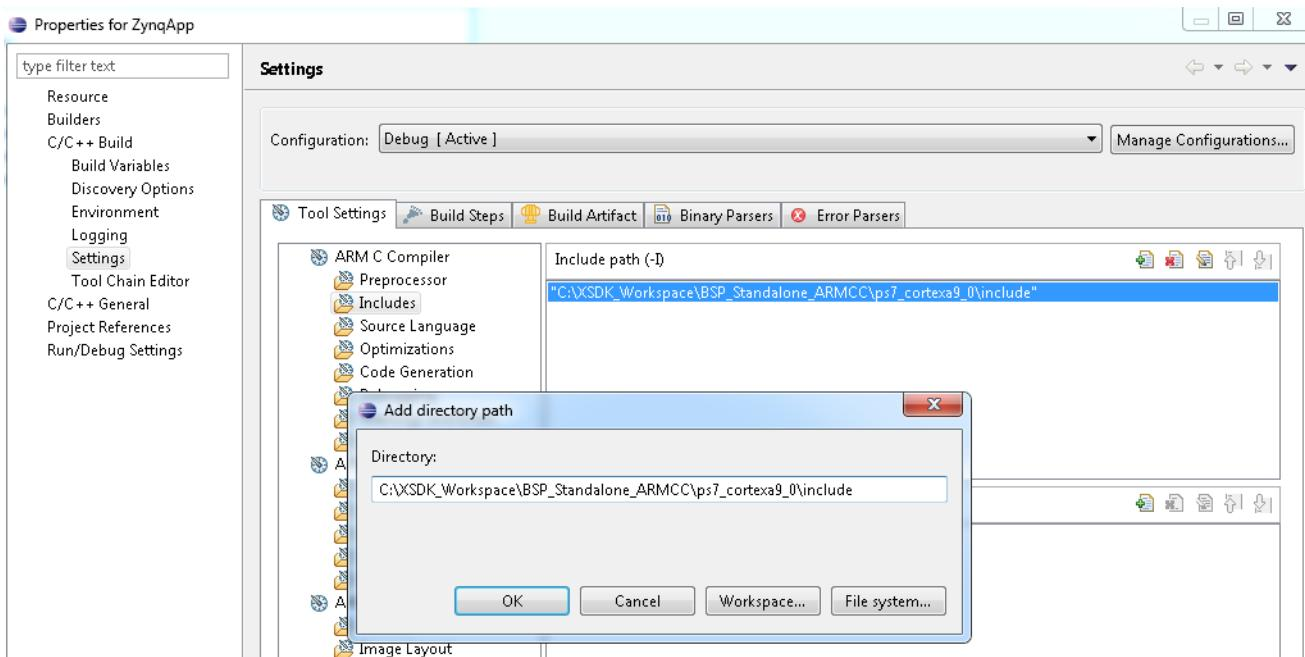

Figure 27: ARM C Compiler Settings
- In the ARM C Compiler, set the include paths for the referenced header files generated by the Xilinx SDK libgen process, customized to the hardware configuration as shown below (also see Figure 27):